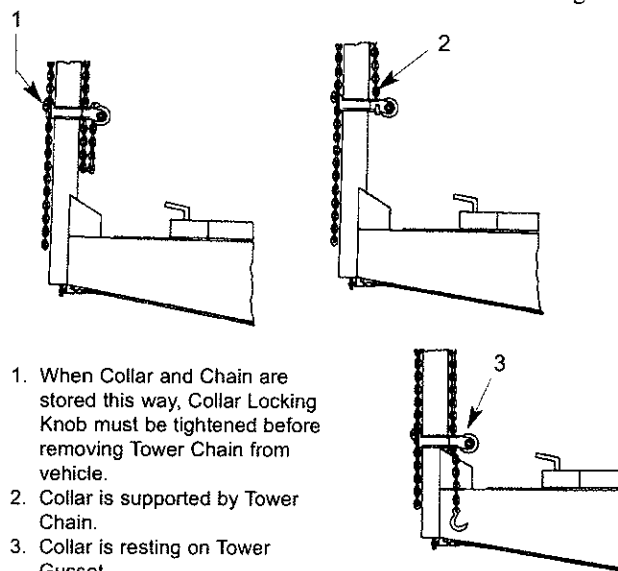

Figure 13
- When tower is no longer needed, close tower valve, disengage tower chain hook, and store collar using one of the three methods shown in Figure 13.